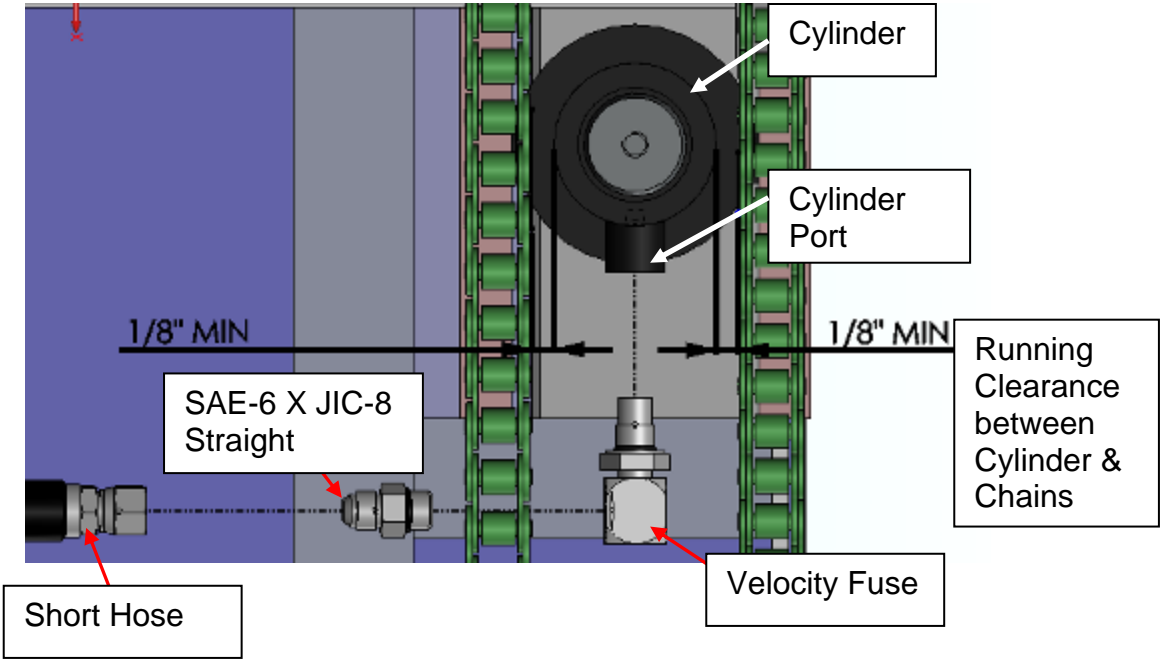

Figure 26 Velocity Fuse Installation – Top View
G. HYDRAULIC INSTALLATION DETAILS (Reference Figures 26 thru 28)
1. Install a hydraulic velocity fuse onto each cylinder as shown in **Figure 26**.
- 2. Install SAE-6 X JIC-8 Straight into velocity fuse as shown in **Figure 26**.